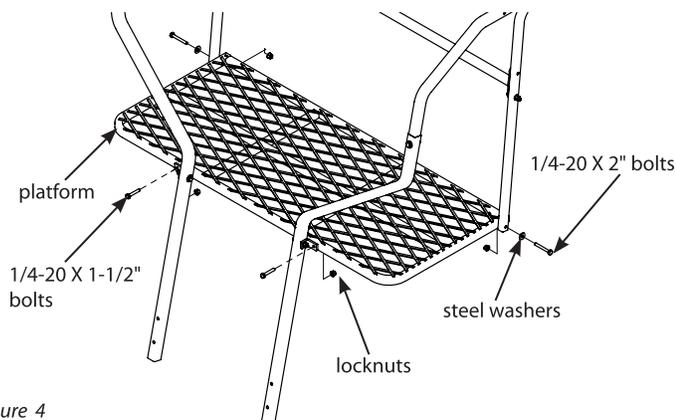

Figure 4
7. Attach platform (14119) to the platform tabs and L-support tubes using (2) provided 1/4-20 x 1-1/2" bolts, (2) 1/4-20 x 2" bolts, (2) steel washers and (4) locknuts. **SEE FIGURE 4.**